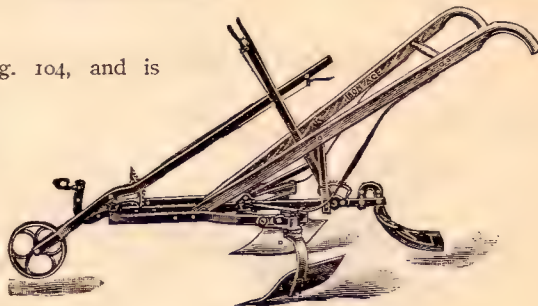

Fig. 104
**The Ratchet Castings** are constructed so as to give easy and numerous adjustments to the side hoes, not only *sidewise*, but in angle of pitch. This adjustment also permits of the side hoes being entirely reversed for hoeing, or, for covering purposes, with point forward, as shown in Fig. 104, they can be quickly changed from side to side. Although our No. 6 Horse Hoe, when used as a cultivator, expands to a width of 30 inches, and
The Leveler is applied as shown in Fig. 104, and is used in connection with the “IRON AGE” Horse Hoe in covering corn, potatoes, peas, etc., and making up rows for root crops, etc. Thousands of “IRON AGE” Horse Hoes are used in this style, particularly among truckers and gardeners. The covering is accomplished by simply reversing the Horse Hoe standards. This Leveler attachment is one that in every respect excels the roller, whose work it is designed to do. The latter is clumsy and heavy, and at times in light soils, will load up and require lifting over, while this is impossible with the Leveler, and, besides, is easier to handle, lighter of draft and much less in price. **Price, attachment only, \$0.85**